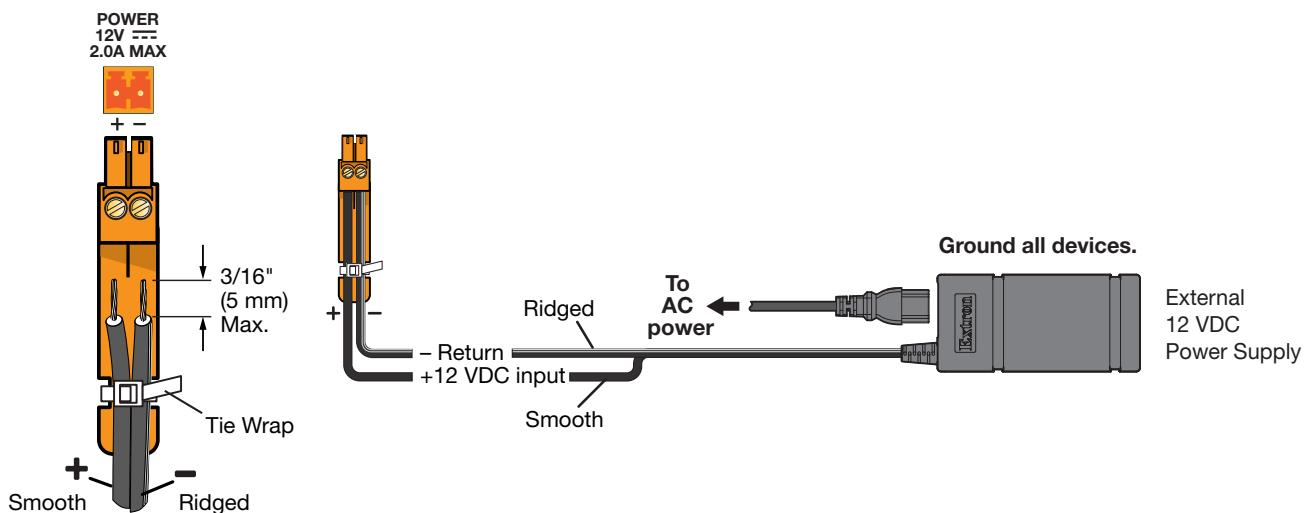

Figure 9. Power Input Wiring
A 12 VDC, 2.0 A power supply is provided with the DMP 64 Plus. Follow the **power supply wiring** instructions and figure 9 on page 10 to wire the provided 2-pole captive screw connector to your power supply.
- Power supply voltage polarity is critical. Incorrect voltage polarity can damage the power supply and the unit. The ridges on the side of the cord identify the power cord negative lead (see figure 9).
2. Strip the jacket to expose 3/16 inches (5 mm) of the conductor wire (see figure 9).